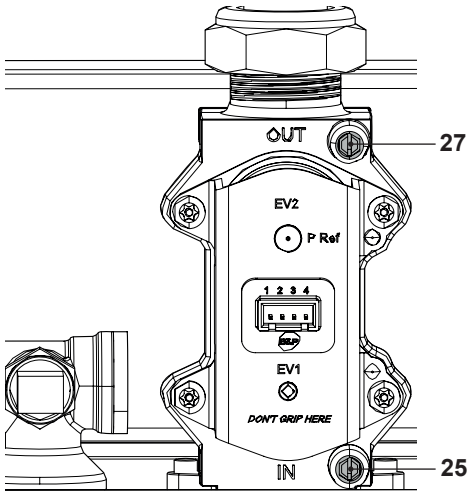

Fig. 7.13
- With the boiler switched on at full rate (maximum output power), check the supply pressure by using the 25 point in Fig. 7.13 and compare the value with that reported on the Gas supply pressure table (minimum inlet pressure) in section "Technical data RINNOVA ADAPTIVE 30S (M300V.30 SR)" on page 26.
- Ensure the test nipple 25 in Fig. 7.13 is firmly closed.